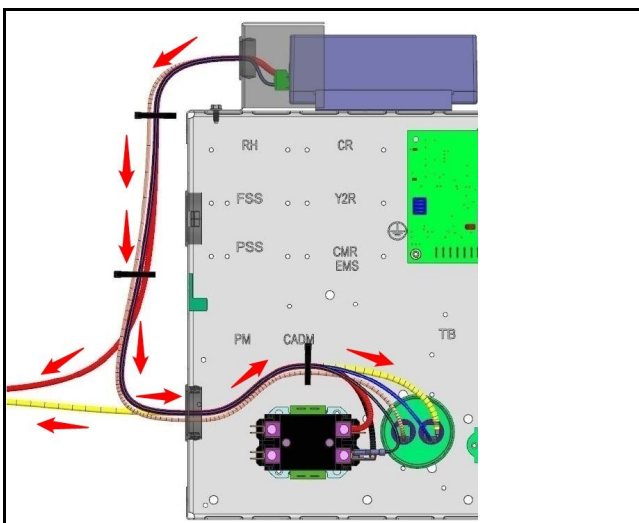

Fig. 18 Wire Routing (LM)
6. Route the wiring out from the hole in sheet metal cover and down the side of the electrical box and then in through the bottom hole towards the compressor contactor and capacitor. Refer to Fig. 18.